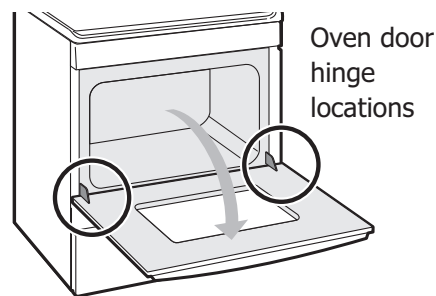

Figure 36: Door hinge location
3. Fully open the oven door, horizontal with floor (Figure 36).